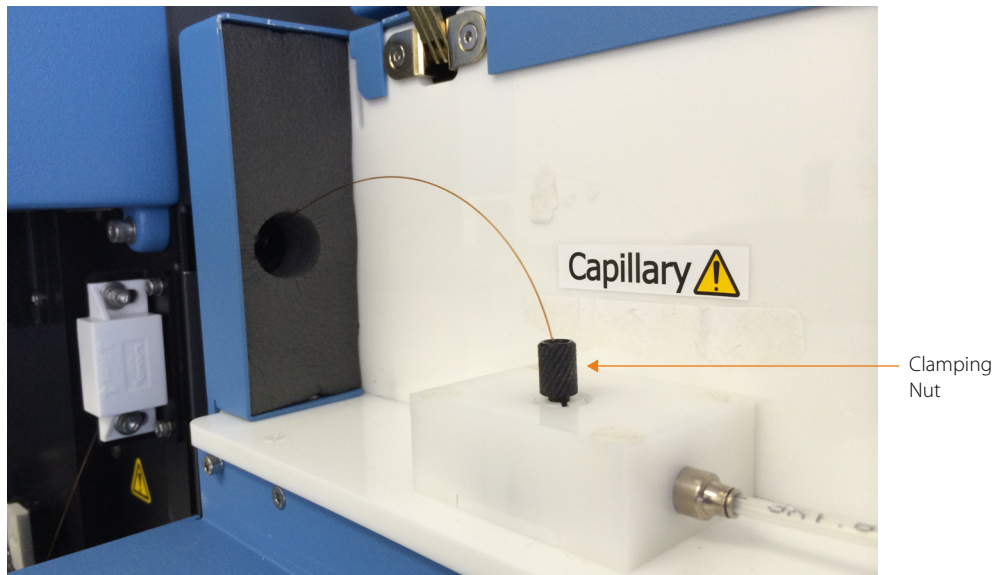

Figure 4-26: Threading the transfer capillary through autosampler fitting.
9. Loosen the black clamping nut inside the autosampler chamber. Thread the capillary through the fitting (Figure 4-26) until it reaches a hard stop. Gently wiggle and slide the capillary up and down a few times to make sure it has completely reached the hard stop.